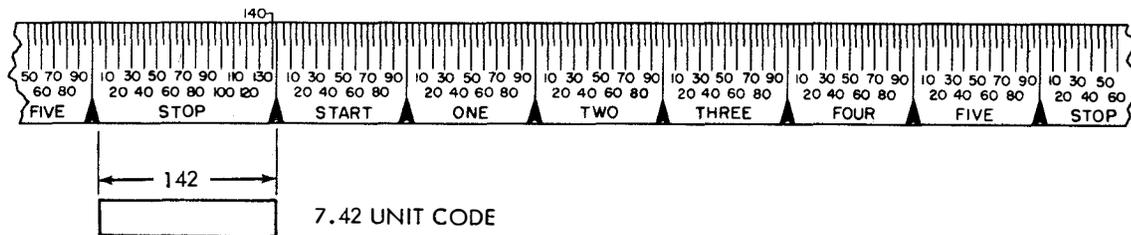

Figure 1 - Length of Stop Pulse
(1) Insert Blank combination tape in sensing head, trip the distributor clutch, and orient the scale of the test set to align the 0 mark of its stop segment with the beginning of the stop pulse image. Length of the trace shall extend from 0 to 142 \pm 4 divisions on the test-set scale. (See Figure 1.)
- (1) Insert Blank combination tape in the fixed sensing head. Trip the fixed reader sensing shaft clutch (on some units, the sensing shaft clutch may be tripped electrically via operation of the pivoted head distributor shaft). Orient the scale of the test set to align the 0 mark of its stop segment with the beginning of the stop pulse image. Length of the trace shall extend from 0 to 142 \pm 4 divisions on the test-set scale. (See Figure 1.)
(2) Check the No. 2 and No. 4 contacts in accordance with the instructions given for the No. 2 and No. 4 distributor contacts of the pivoted sensing head.
(3) Check the No. 1, No. 3, and No. 5 contacts in accordance with the instructions given for the No. 1, No. 3, and No. 5 distributor contacts of the pivoted sensing head.